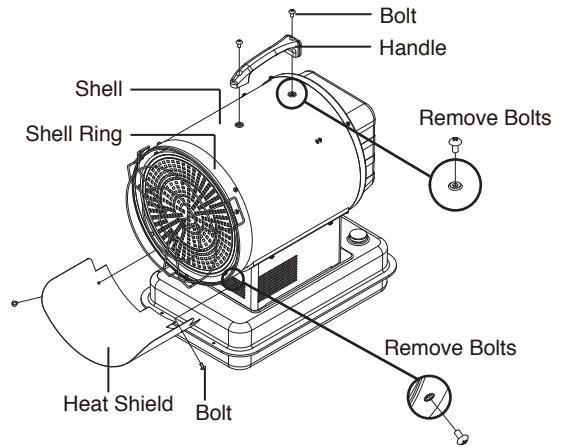

Figure 3. Assembling Handle, Heat Shield
2. Align the holes in the shell with two mounting holes on the handle as shown in Figure3.
4. Align the holes in the shell ring with two mounting holes on the heat shield as shown in Figure 3.